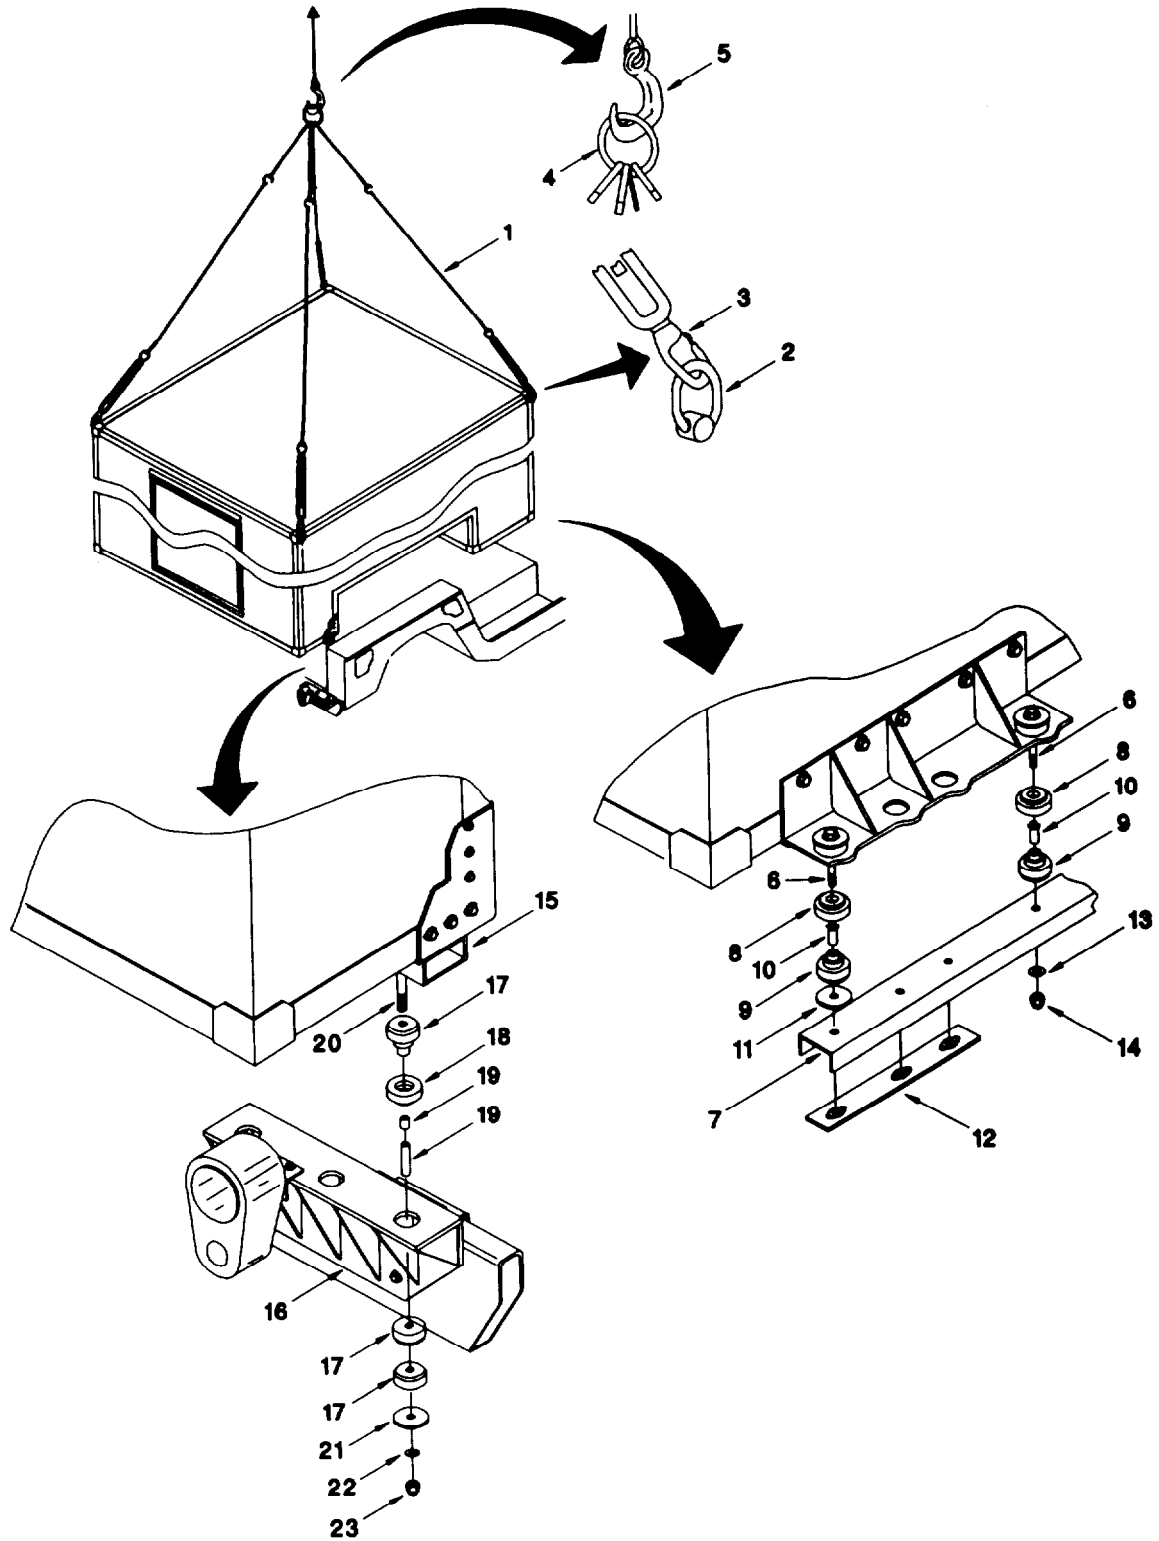

Figure 3-4. Mounting Shelter to Vehicle
- d. Mounting Shelter on Vehicle (Refer to Figure 3-4)
(1) Attach certified sling assembly (1) to all four lifting rings (2) on shelter using the four sling hooks (3) at opposite ends of cables from sling assembly lifting ring (4).
(2) Insert lifting hook (5) of the lifting device into sling assembly lifting ring (4).